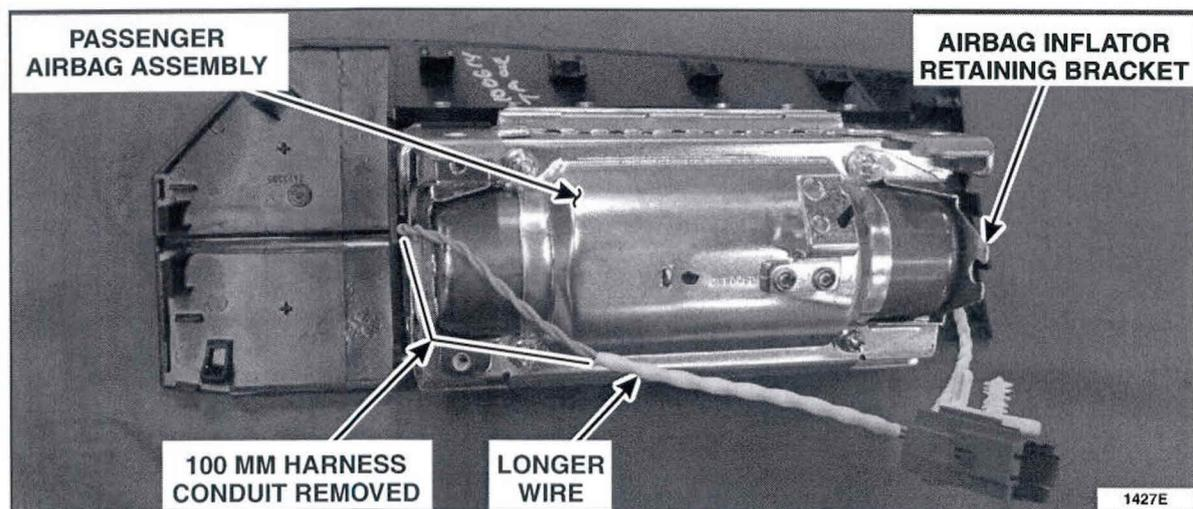

FIGURE 4
4. Remove approximately 100 mm (3.93 in) of the yellow conduit from the passenger airbag assembly wire harness. See Figure 4.